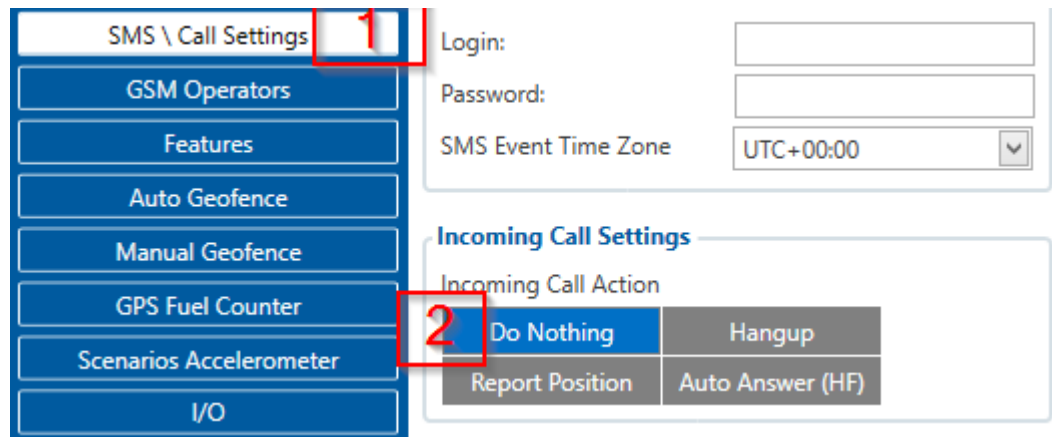

Figure 35 Incoming Call Action settings
9. Go to **"SMS \ Call Settings"** in left menu and set **"Incomming Call Action"** to **"Do Nothing"** visible at **Figure 35**.